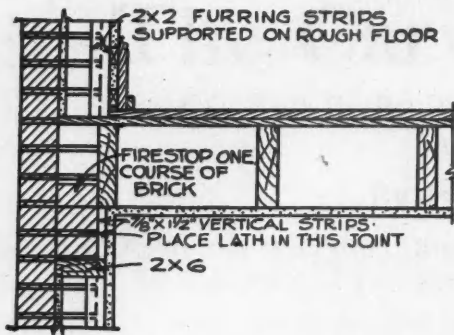

Fig. 10. Section at Second Floor Joist Level. Joists parallel to wall.
37. For firestopping the floor where the joists run parallel to the wall (where the first joist is naturally placed close to the brickwork), it is necessary only to run one additional course of brick to fill the space between joist and wall. The joist itself forms sufficient firestopping for the space within the floor. (Fig. 10.)